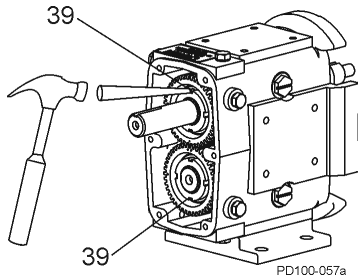

Figure 62 - Bend Lock Tab on Lock washers
- Bend the locking tab on the lock washers into the locking nut slots, securing the gear locknut into place (Figure 62).